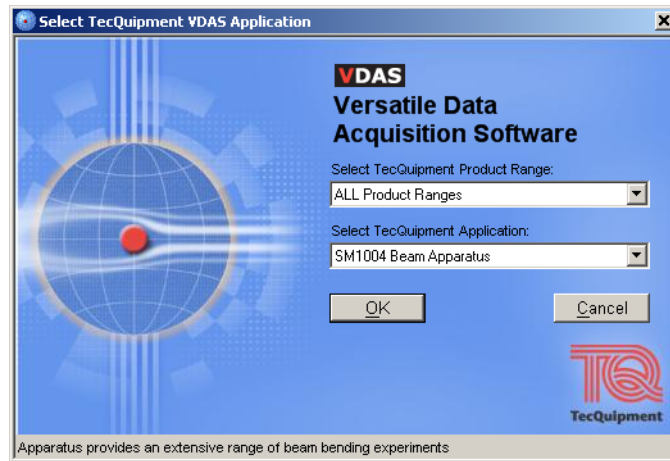

Figure 14 The 'Select TecQuipment Application' Screen
8. The first time that you use VDAS, the software will show a 'Select TecQuipment Application' Screen (see Figure 14). Use this screen to select the TecQuipment VDAS-compatible product that are to use with the VDAS software. The software will then set itself to automatically load the correct settings and Layout for your product.